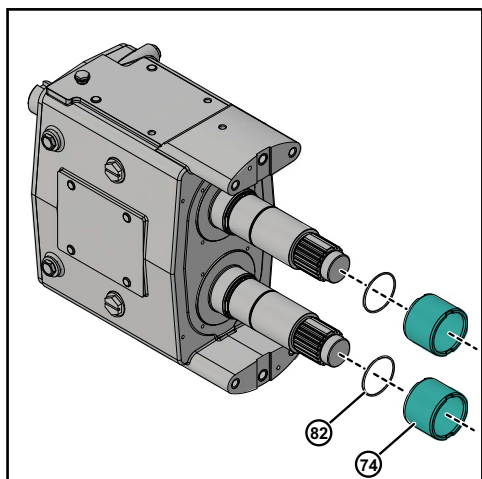

Figure 120 - Install Sleeves and O-rings
1. Lubricate the two shaft O-rings (82) with a lubrication compound compatible with the O-ring material and process fluid(s). Install the shaft O-rings (82) on the shaft groove.
2. Install the two sleeves (74) on the shaft, as shown in Figure 120.